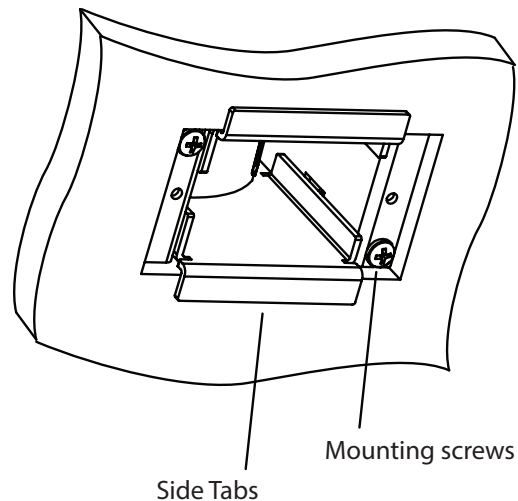

Fig. 4
13. While keeping the side tabs pressed against the mounting surface, secure the Minibox to the mounting surface by tightening the two **mounting screws**. (Fig. 4)